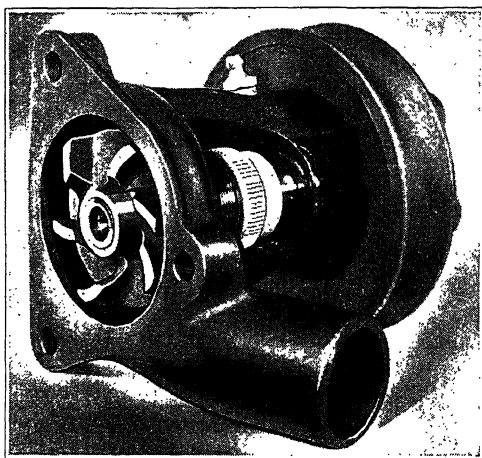

Fig. 13. Six-Vane Water Pump Mounted on Needle Bearing,
**Hudson and Terraplane Water Pump.** Fig. 13 illustrates the 1935 Hudson and Terraplane six-vane centrifugal type pump. The pump shaft is mounted on needle bearings, these being used in order to cut down the amount of power required to drive the pump and to insure against overheating and burning out of the pump-shaft bearing through lack of proper lubrication.